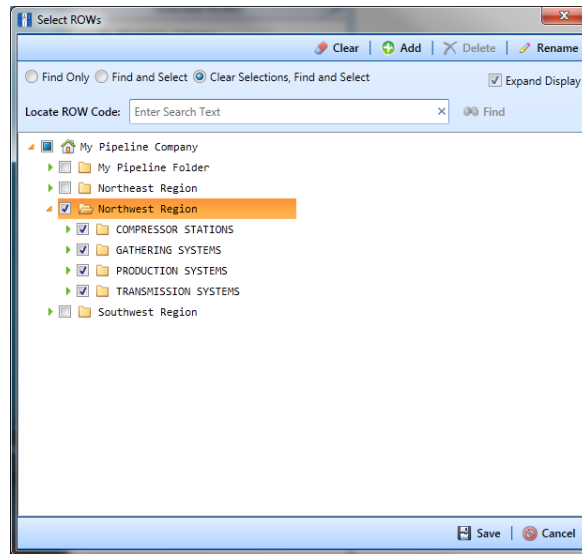

Figure 6-4. Select ROWs
- 1 Click the **Select ROWs** button  to open the *Select ROWs* window (Figure 6-4, page 170).
- 1 Click the **Select ROWs** button  to open the *Select ROWs* window (Figure 6-4, page 170). Select one or more pipeline segments with facilities you want to work with, then click  **Save** to close the window.